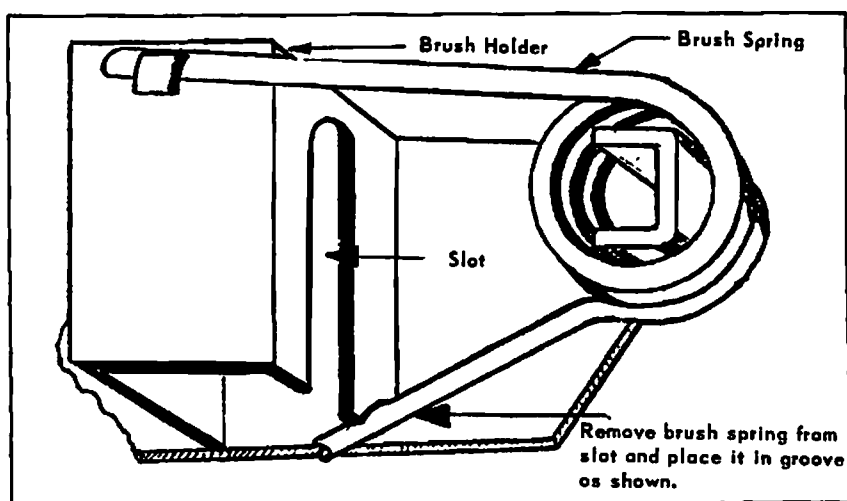

Figure 3-12
5. Maintain motor in the upright position and release the brush spring tension against the brushes as shown in Figure 3-12. Then push the brushes inside the brush holder to allow clearance for the armature commutator when armature is removed.